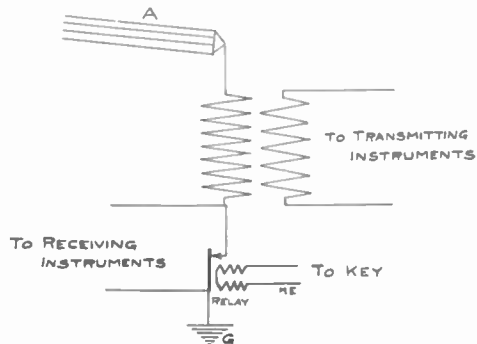

FIG. 3
- FIG. 3 -
shown in Fig. 3 as you want circuits; they should be about 3/8 in. wide and 1 1/2 in. long; these should be placed through